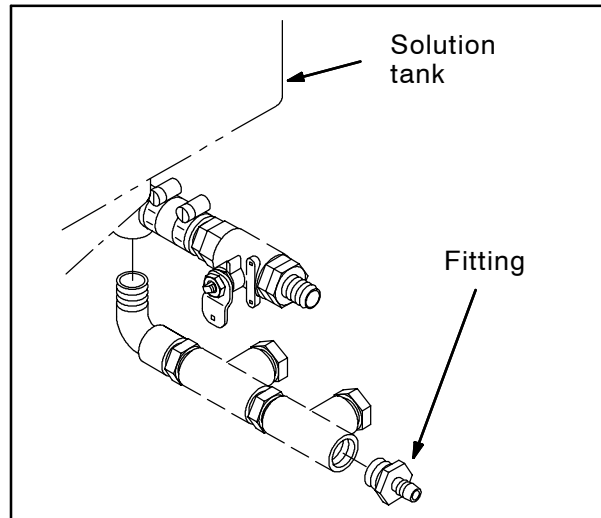

FIG. 4
4. Install the fitting onto the solution supply assembly. Refer to Fig. 4.